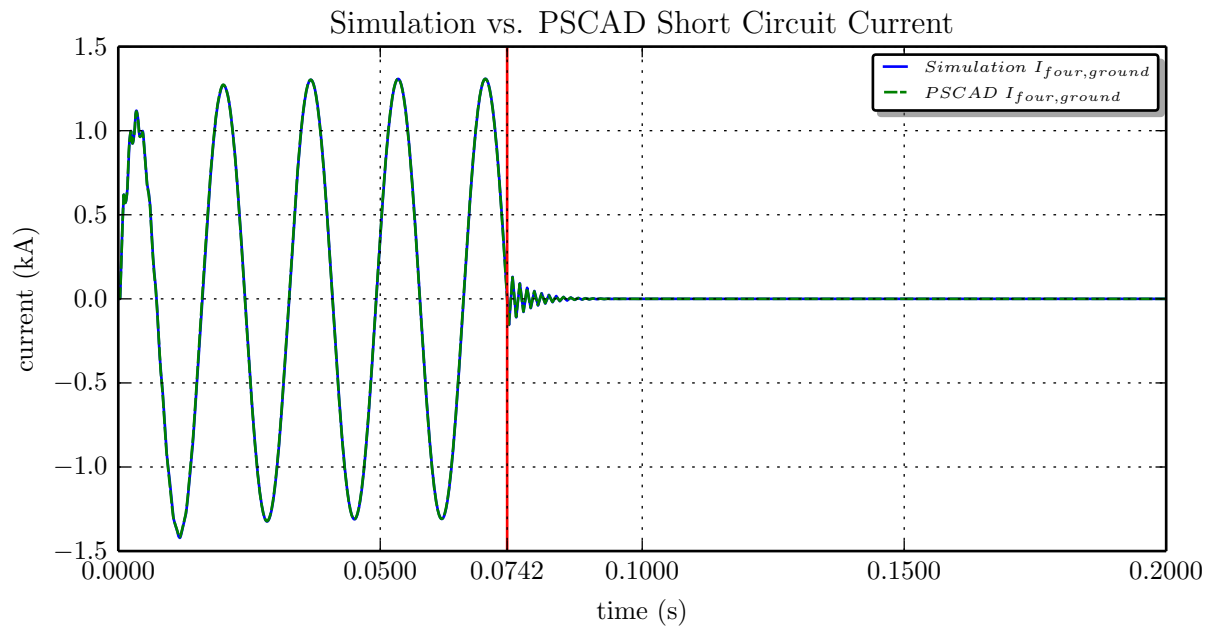

Figure 10: Plots of $I_{four,ground}$ short circuit current
- b) Plots of $I_{four,ground}$ which represents the short-circuit current at the end of the transmission line (Figures 10, 11, and 12).